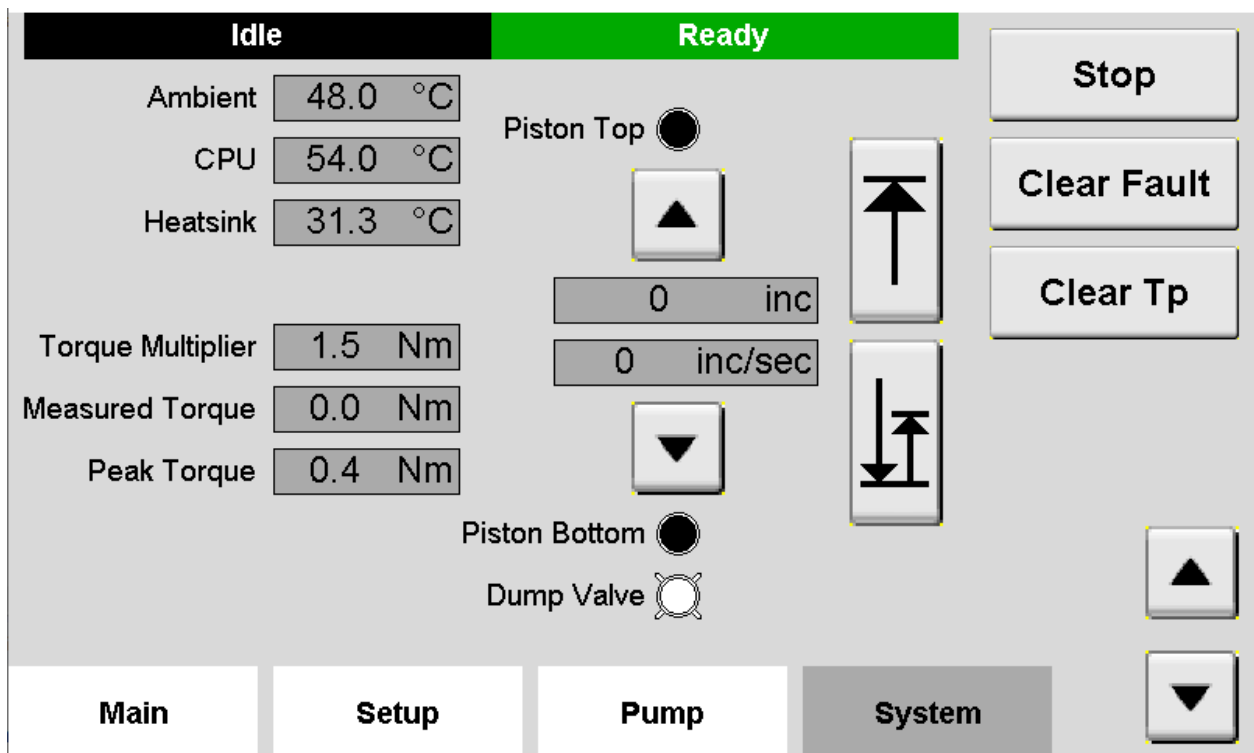

Figure 3.14 Advanced Hardware Screen
3.2.5.13 Advanced Hardware Screen (Figure 3.14)